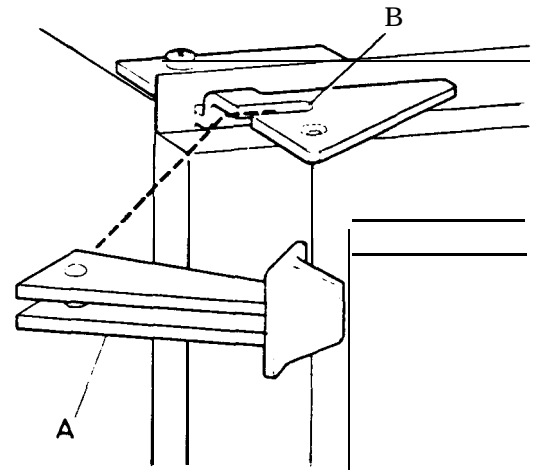

Fig. 32
3. Remove the plastic travel latch (A fig. 32) by means of turning it towards the cabinet opening and slide it out from its slot in the hinge plate (B). Turn the travel latch the opposite way and fit it on the hinge plate on the other side of the cabinet. When the travel latch is in locked position the fluted side of the latch should face the cabinet opening.